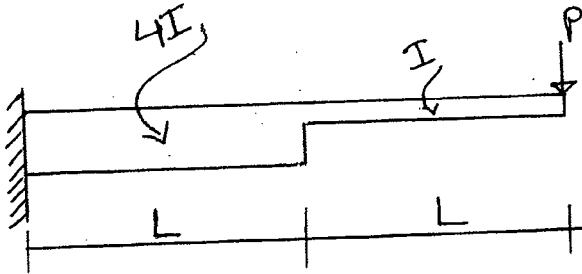

FIGURE . 11
14. Find the deflection and angular rotation of the free-end of a cantilever beam shown in Figure 11. (14)